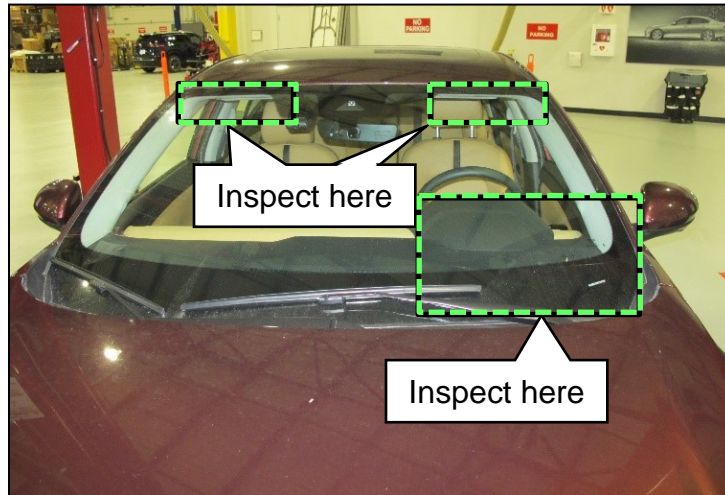

Figure 1
1. Locate the areas of the windshield for inspection (Figure 1).
3. Inspect all three (3) areas outlined in Figure 1 for bubble-type delamination.